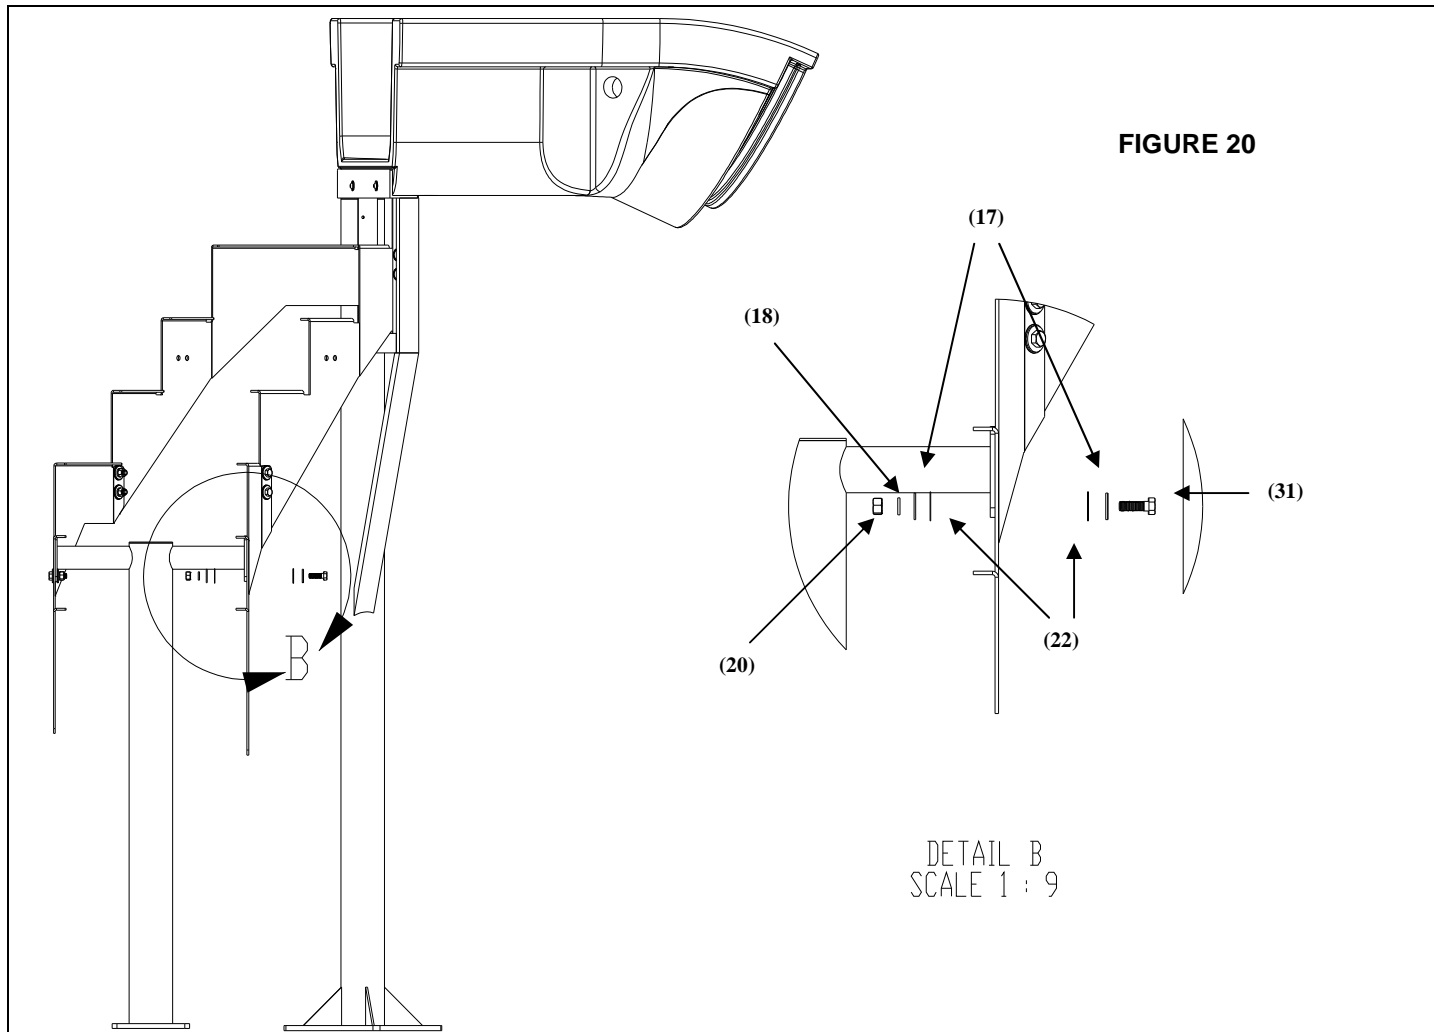

FIGURE 20
3) Move the Middle Stair Support (48) into place as shown in Figure 20. Align the holes in the Middle Support bracket with the holes in the stair brackets. Next, attach the Middle Support to the stair brackets as shown in Figure 20, Detail B. The required hardware is as follows: 1/2" x 1.5" Hex Head Bolt (31), 1/2" Flat Washer (17), 1/2" Nylon Washer (22), 1/2" Nylon Washer (22), 1/2" Flat Washer (18), 1/2" Lock Washer (20), 1/2" Hex Nut (22). This should be done for both sides of the support.